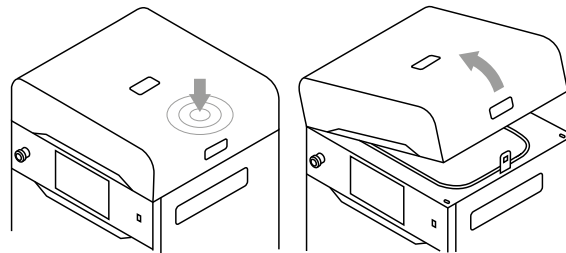

Fig. 6.1 Lifting the printer lid.
2. Push on the lid and pull it up using the lid handle (fig. 6.1).